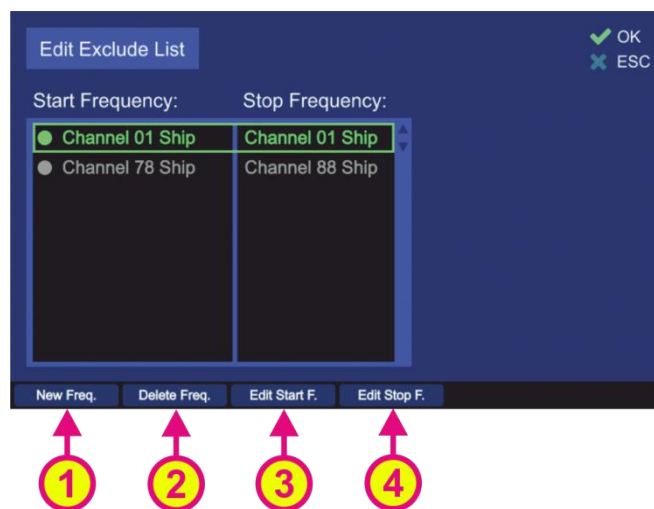

Fig. 43 „Exclude List“ configuration
- To insert a new frequency/channel or a range of frequencies/channels, press the hotkey „New Freq.“ (s. Fig. 43, position 1). The dialog for entering a new frequency will
- Mark any line in the list and press the hotkey “Edit Start F.” (s. Fig. 43, position 3) to edit the start-frequency of the desired range to be excluded. The dialog for editing the frequency will be opened, where you can input any desired frequency (s. Fig. 32 and its description in 6.2.2.4).
- Mark any line in the list and press the hotkey “Edit Stop F.” (s. Fig. 43, position 4) to edit the stop-frequency of the desired range to be excluded. The dialog for editing the frequency will be opened, where you can input any desired frequency (s. Fig. 32 and its description in 6.2.2.4).
- By pressing the hotkey “Delete Freq.” (s. Fig. 43, position 2), the marked line will be deleted immediately, regardless of whether it is a single frequency or a whole frequency range.